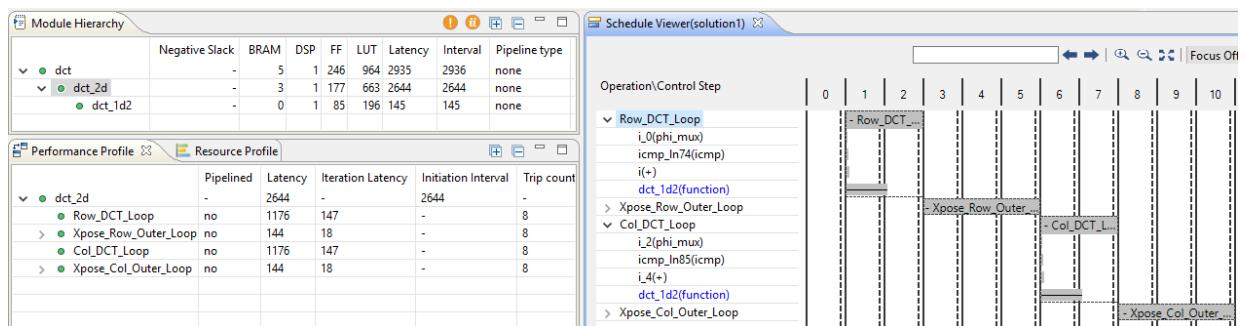

Figure 6-11: DCT_1D Schedule Viewer
Again, you can see a number of loops (shown in Figure 6-11). Loops ensure the design will have small area but the design will take multiple iterative states to complete. Each iteration of the loop will complete before the next iteration starts.
7. Click loops **Row_DCT_Loop** and **Col_DCT_Loop** of the **dct_2d** block in the Schedule Viewer to fully expand them, as shown in Figure 6-11.
9. Expand the loops in the **Performance Profile** and **Schedule Viewer** to see the view shown in Figure 6-11.
In Figure 6-11 you can see a series of loops (Row_DCT_loop, Col_DCT_Loop) that can be pipelined.